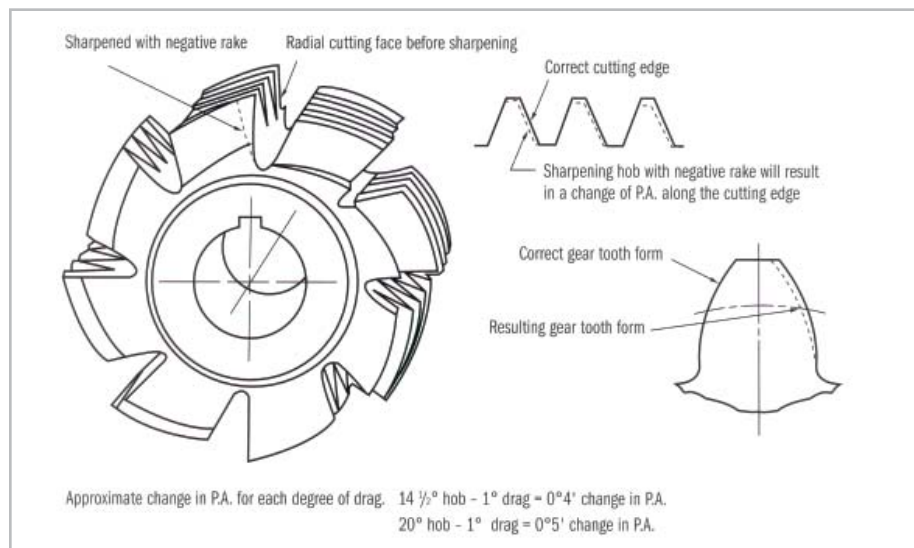

Figure 6. Effect on profile of a hob resharpener with negative rake when the cutting face should be sharpened radial.
- 1) Hob cutting faces are sharpened with negative rake (Figure 6)